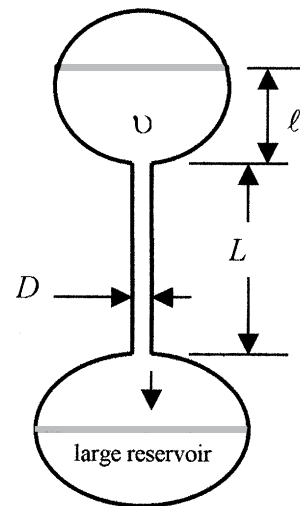

Fig. P6.17
6.17 A *capillary viscometer* measures the time required for a specified volume ν of liquid to flow through a small-bore glass tube, as in Fig. P6.17. This transit time is then correlated with fluid viscosity. For the system shown, (a) derive an approximate formula for the time required, assuming laminar flow with no entrance and exit losses. (b) If $L = 12 \text{ cm}$, $l = 2 \text{ cm}$, $\nu = 8 \text{ cm}^3$, and the fluid is water at 20°C, what capillary diameter D will result in a transit time t of 6 seconds?